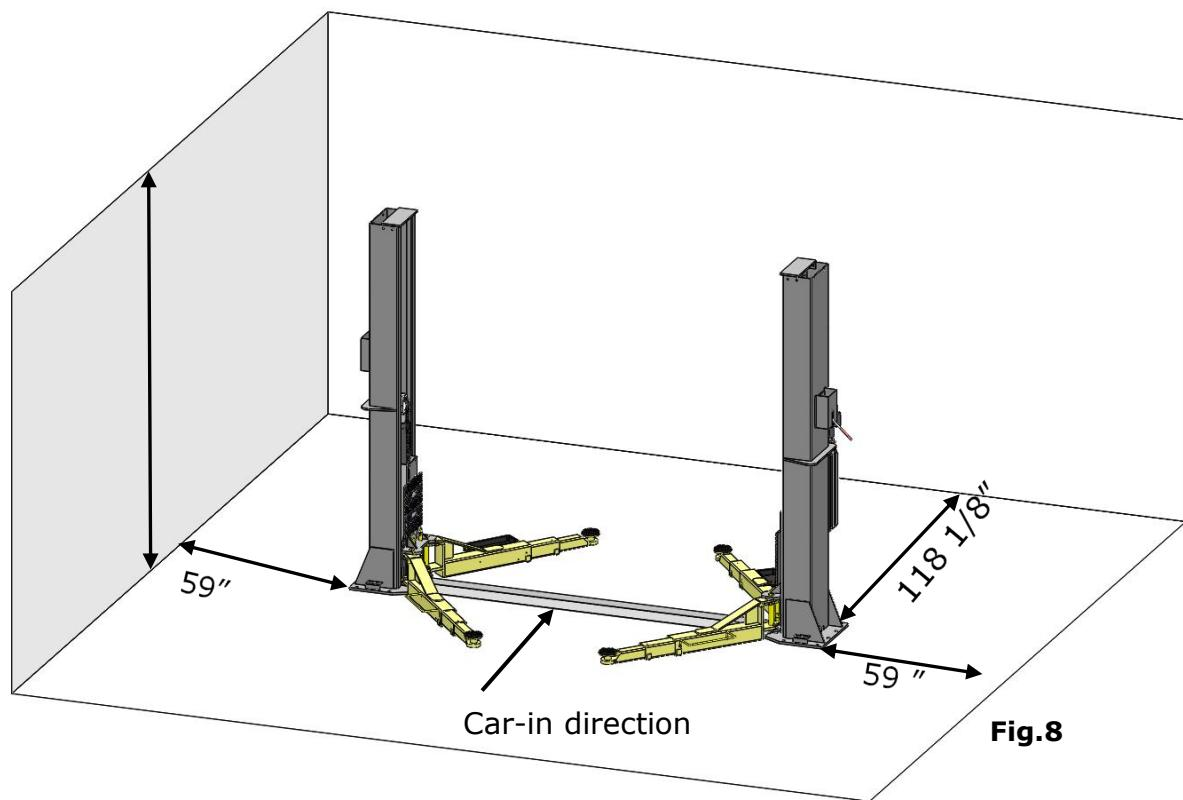

Fig.8
1. Installation space: Ensure there is enough space for the lift. Accurately measure the front, back, side and top mounting dimensions and refer to the below figure data(See Fig. 8).